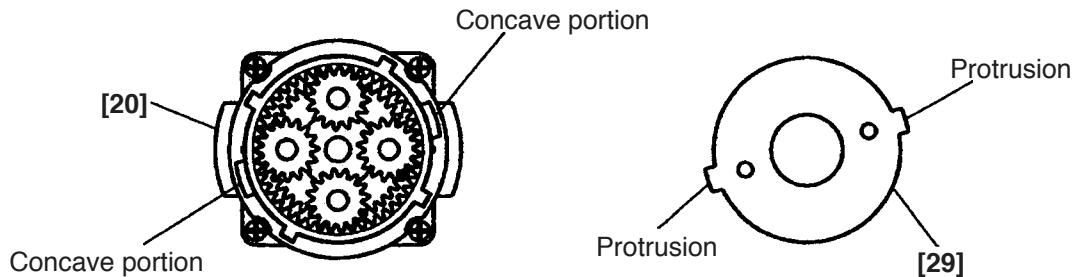

Fig. 12
- ⑥ Fit the protrusion of Washer (B) [29] in the concave portion of the Rear Case [20] and turn it clockwise viewing from the armature until it contacts the Rear Case [20] (see Fig. 12).